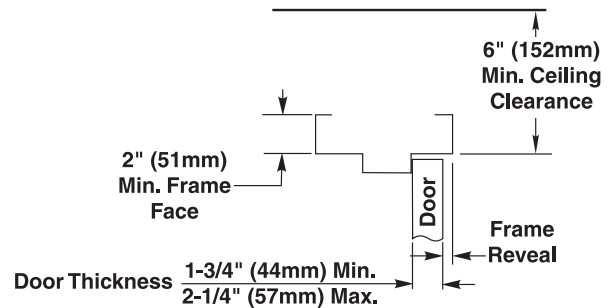

Figure 1
Become familiar with operator components and fasteners. It is recommended that components remain in box until installed. Verify there is minimum ceiling clearance for operator installation before proceeding. (Figure 1)
1. Verify frame reveal is maximum 1/8" (3mm). (Figure 1)